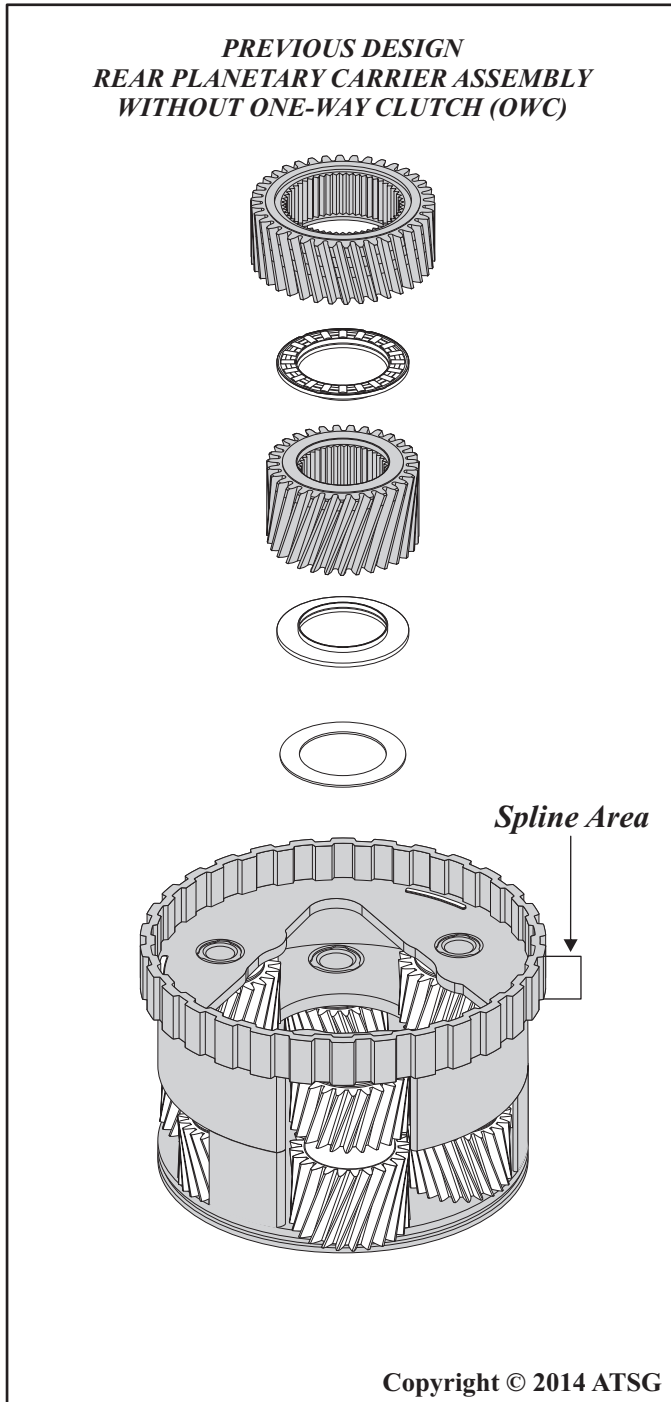

Figure 117
1. The diagrams in Figures 117 and 118 illustrate the differences between the previous design without one-way clutch (OWC) and the new design with one-way clutch (OWC).